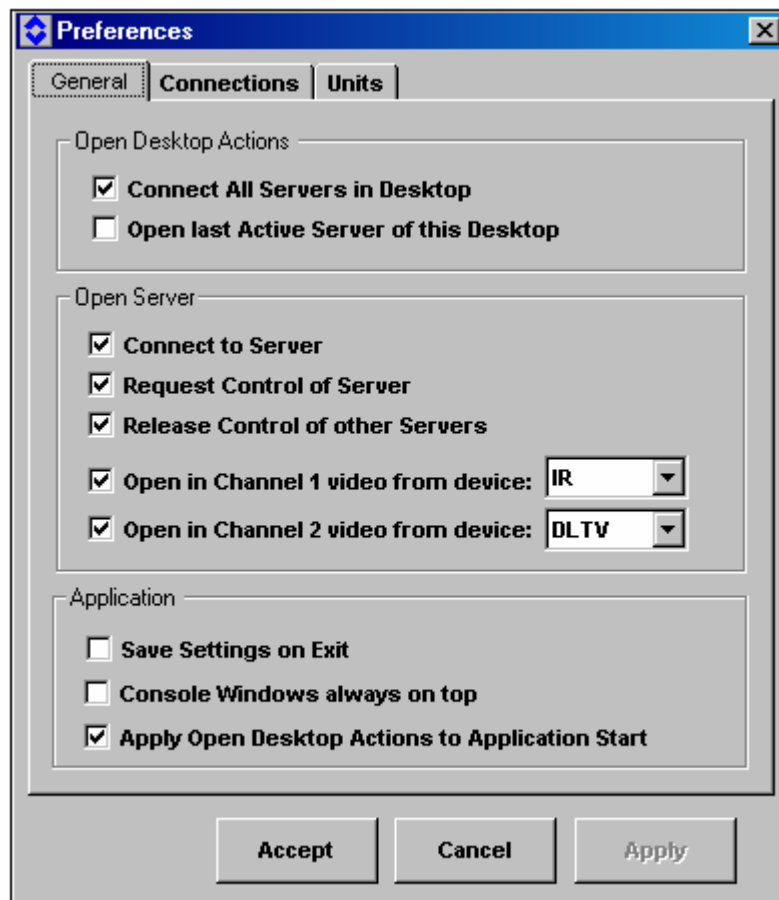

Figure 32 – Preferences General Tab
- i) Under the General tab, the user can configure the system to save various device configuration settings. The operator can also force the Console software windows to always be the top window displayed on the monitor. The **Open Server section**, allows the user to select which action the Console will execute upon opening a server. An example of this action, when **Open in Channel video from device** box is checked, the video signal from the selected device will open automatically, when a server is opened from the Luveo Console. The **Open last Active Server of this Desktop** will open all active servers present on the Console before closing. See Figure 32 – Preferences General Tab.